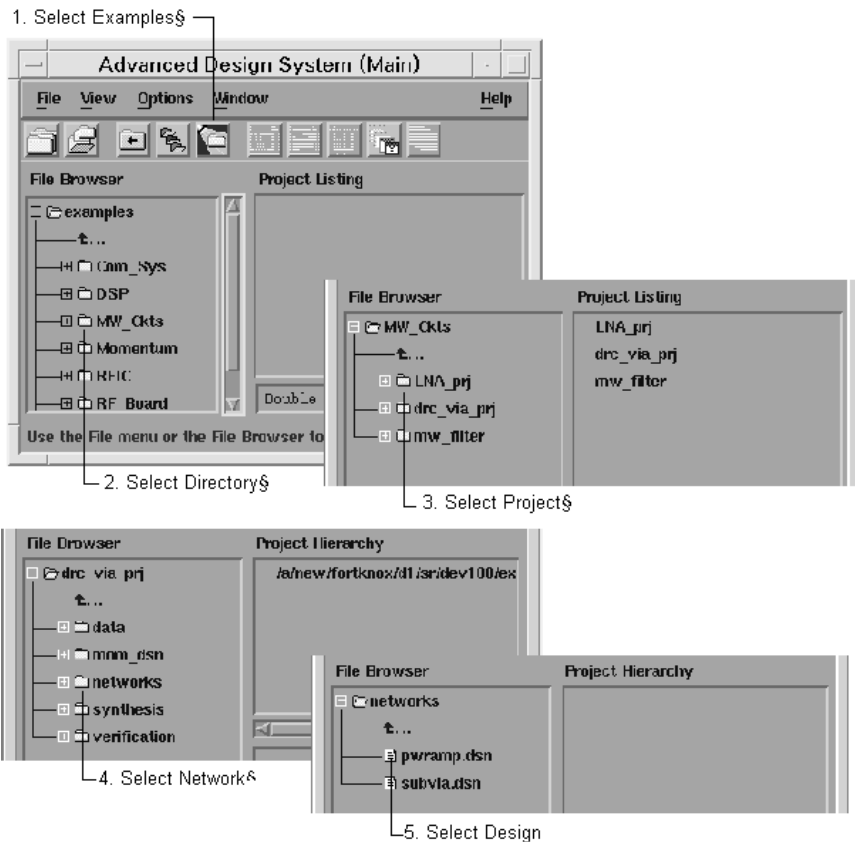

Figure 1-1. Selecting an Example Design
2. In the File Browser, select the directory path to the example design. Figure 1-1 illustrates the path to the pwramp design: